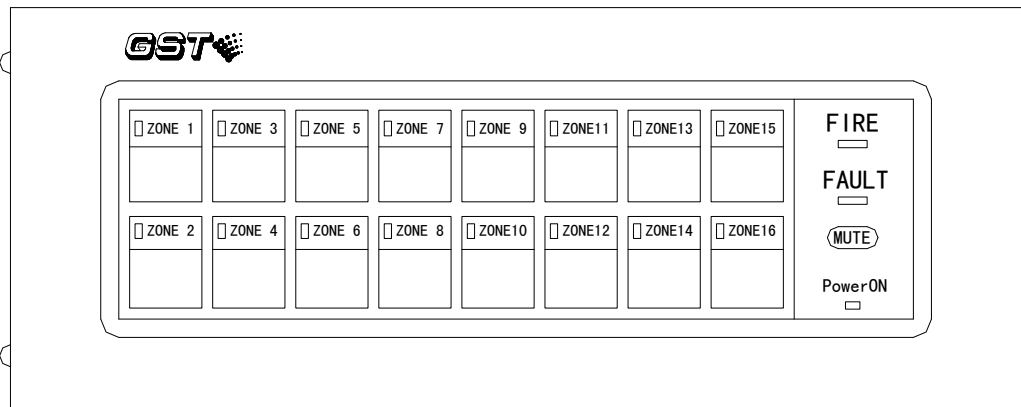

Fig. 2 Front Panel
2. Front panel is shown in Fig. 2.